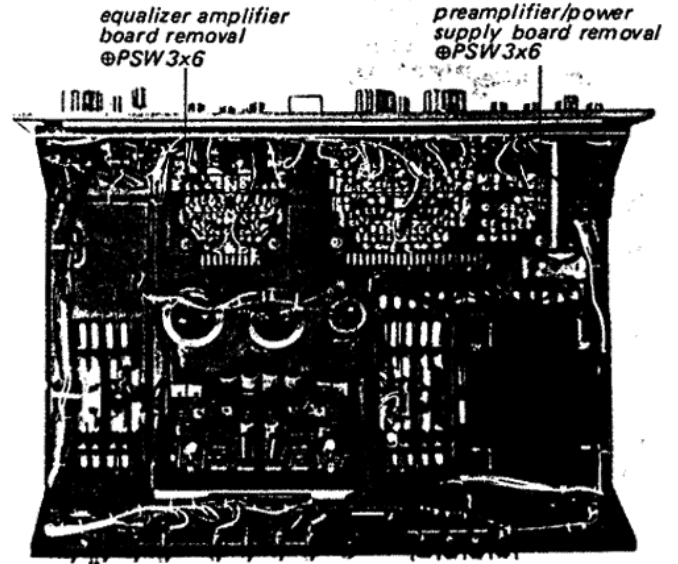

Fig. 2-6. PCB removal
2. Remove the two screws (⊕PSW 3x6) securing the Preamplifier/Power Supply circuit board to its mounting bracket as shown in Fig. 2-6.
1. Remove the two screws (⊕ PSW 3×6) securing the Equalizer Amplifier Board to its mounting bracket as shown in Fig. 2-6.